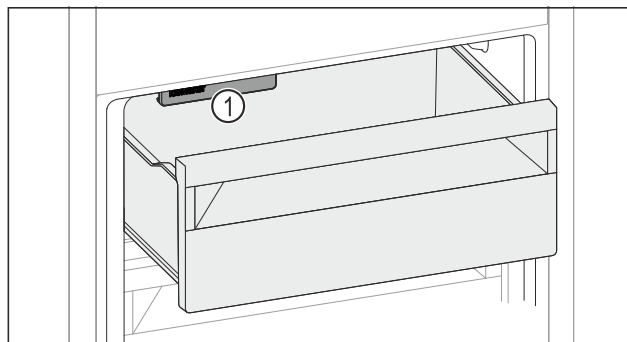

Fig. 111
- ▶ Observera IceMaker Fig. 111 (1).